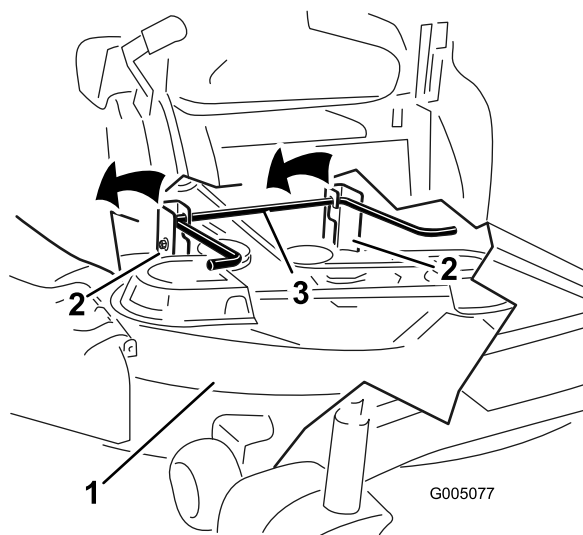

Figure 62
6. Lift the mower deck and hanger brackets clear of the rear lift rod and lower the mower carefully to the ground (Figure 62).
5. Lift the rear of the mower deck and guide the hanger brackets over the rear lift rod (Figure 62).